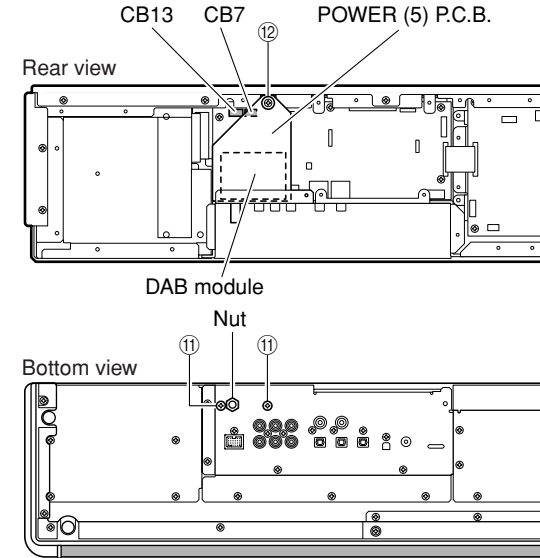

Fig. 4
4. Removal of POWER (5) P.C.B. and DAB Module (B model)
- Remove 2 screws (11). (Fig. 4)
- Remove nut. (Fig. 4)
- Remove screw (12). (Fig. 4)
- Remove CB7 and CB13. (Fig. 4)
- Remove POWER (5) P.C.B. together with DAB module. (Fig. 4)